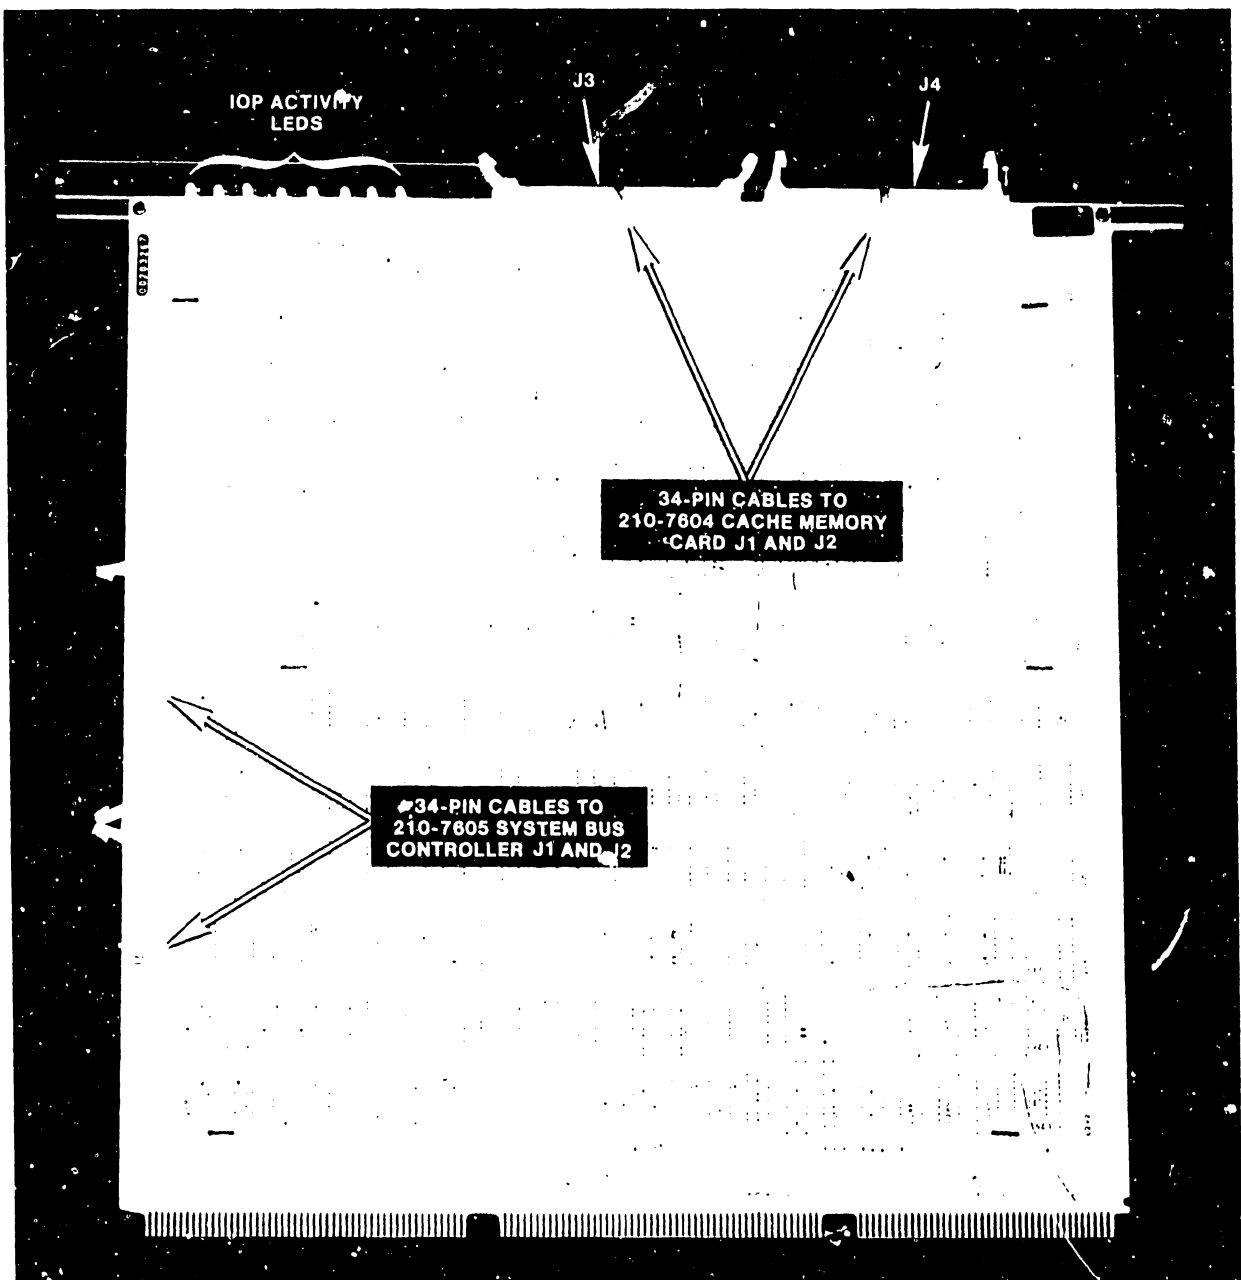

FIGURE 3-14 210-7611 BUS ADAPTER CARD WITH CONNECTOR LOCATIONS
7. Install a 210-7611 Bus Adapter (BA) card (see Figure 3-14) in Motherboard slot #15: the card in this slot becomes Bus Adapter #1. If the system is to contain a second BA card, install it in Motherboard slot #14: the card in this slot becomes BA #2. Refer to Paragraph 3.6.3 for internal cable connections.